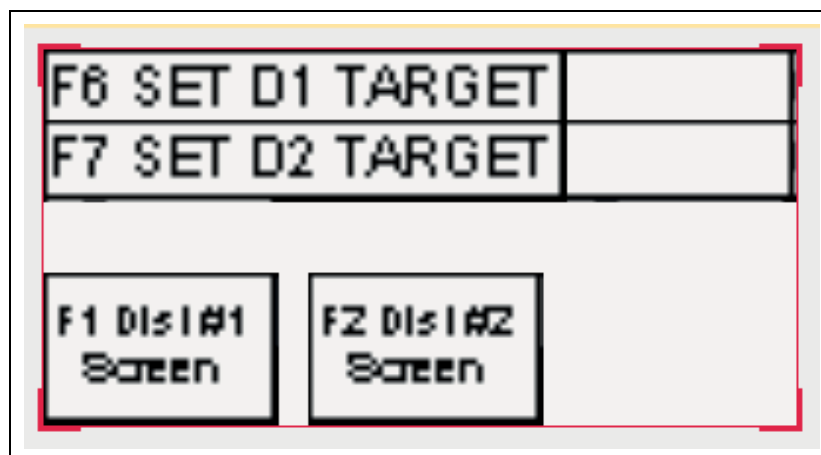

Figure 5P
2. After pressing **F1**, the following screen will appear as in Figure 5P. There are two (2) options. In normal operation, press **F6** or **F7** and then enter the spout location. The other option is to go to each spout's setup screen.